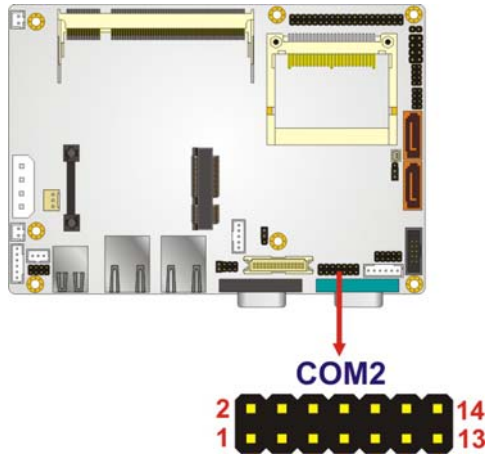

Figure 3-17: RS-232/422/485 Serial Port Connector Location
- CN Location:** See **Figure 3-17**